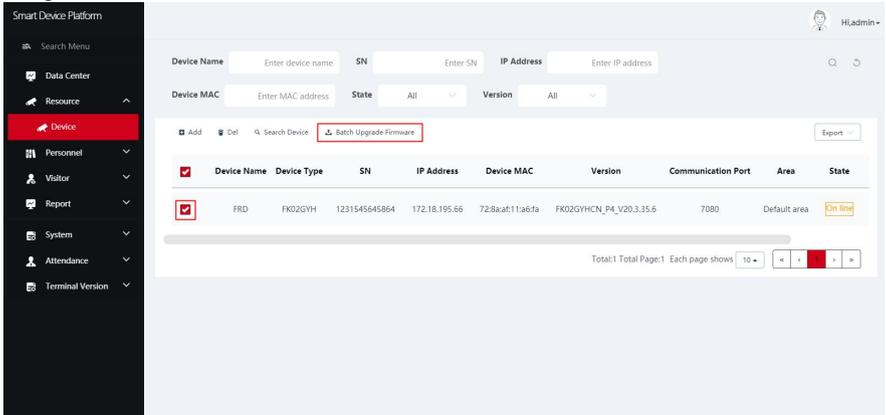

Figure 5-28
Step 6: Select the device to upgrade, click "  Batch Upgrade Firmware ", as shown in Figure 5-28 below.